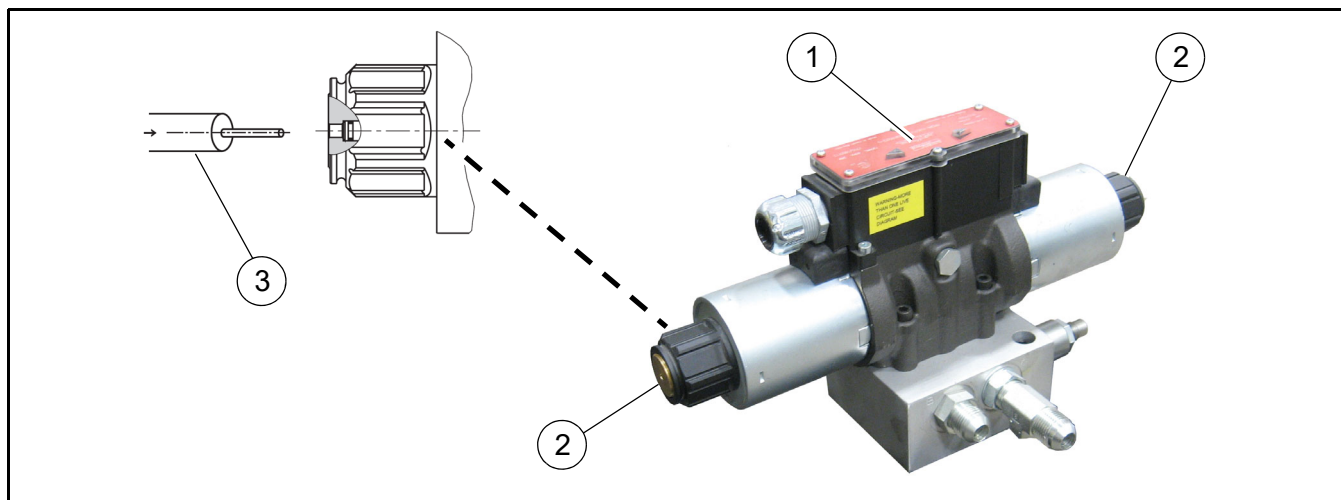

Figure 4
- Stored or residual hydraulic pressure must be relieved after blocking devices are installed. Locate the direct acting directional control valve (**Figure 4, 1**) on the Power Pack.
- Both solenoids (**Figure 4, 2**) on the directional valve have a manual override.
- Insert an 1/8" or less diameter pin or screw driver (**Figure 4, 3**) into the end of both solenoid spools to relieve hydraulic pressure from both hydraulic lines for the ram cylinders.